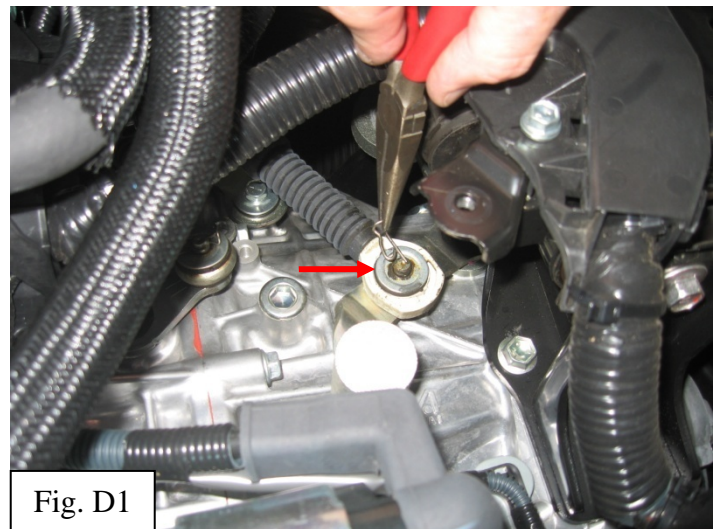

Fig. D1
1. Disconnect the transmission cable end from the gear shift linkage on the transmission. (Fig. D1)
- i. Remove factory transmission cable clip and save for re-use. (Fig. D1)
- ii. Remove transmission cable end from transmission linkage and set cable end aside. (Fig. D1)